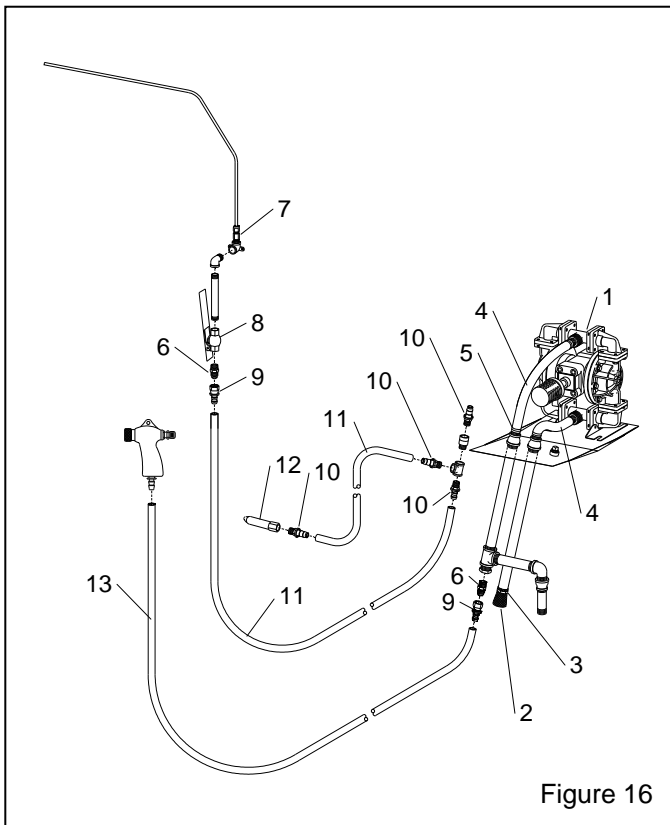

Figure 16
8.3 Water Plumbing Schematic, Figure 16